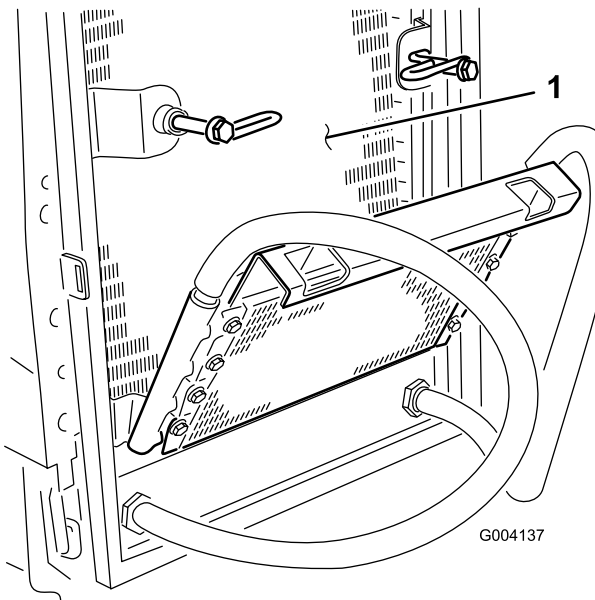

Figure 71
6. Thoroughly clean both sides of the oil cooler and the radiator (Figure 71) with compressed air.